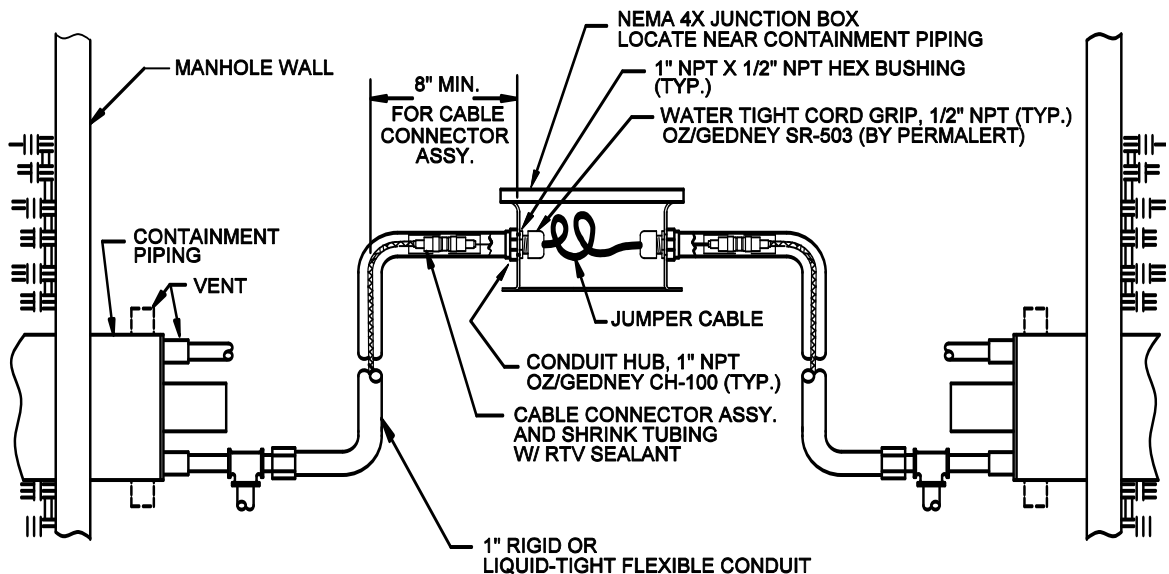

Figure 9
12. Where electrical conduit and junction boxes are required, use watertight NEMA 4X boxes and mount per the instructions contained in this guide. Temporarily pull enough sensor cable out of the secondary containment and into the junction box (approximately 2') to allow installation of cable connectors (see Figure 9). **Make sure the bushings and cord grips are slipped on the jumper cable before installing the cable connectors.** Attach the cable connectors, test them, and push the assemblies into the electrical conduits. Thread and tighten the cord grips making a watertight seal against the jumper cable. The conduit termination points must be sealed. **Do not leave conduit termination points open, or moisture may enter and wet the sensor cable.**